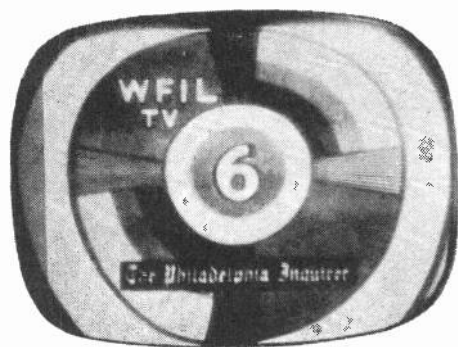

Fig. 2-L. *Effect on pix of line-voltage change.*
**SYMPTOMS:** Picture size and contrast change when electrical appliances are turned on. See Fig. 2-L.